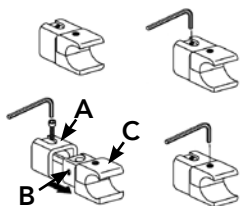

Fig 2
1. Mark bracket positions as per *Fig. 2*, measure the width (X) of the towel rail less 50mm and the height (Y) of the towel rail less 150mm (behind the 3rd cross tube from top and from bottom) to find your four fixing positions for the Wall sleeves.